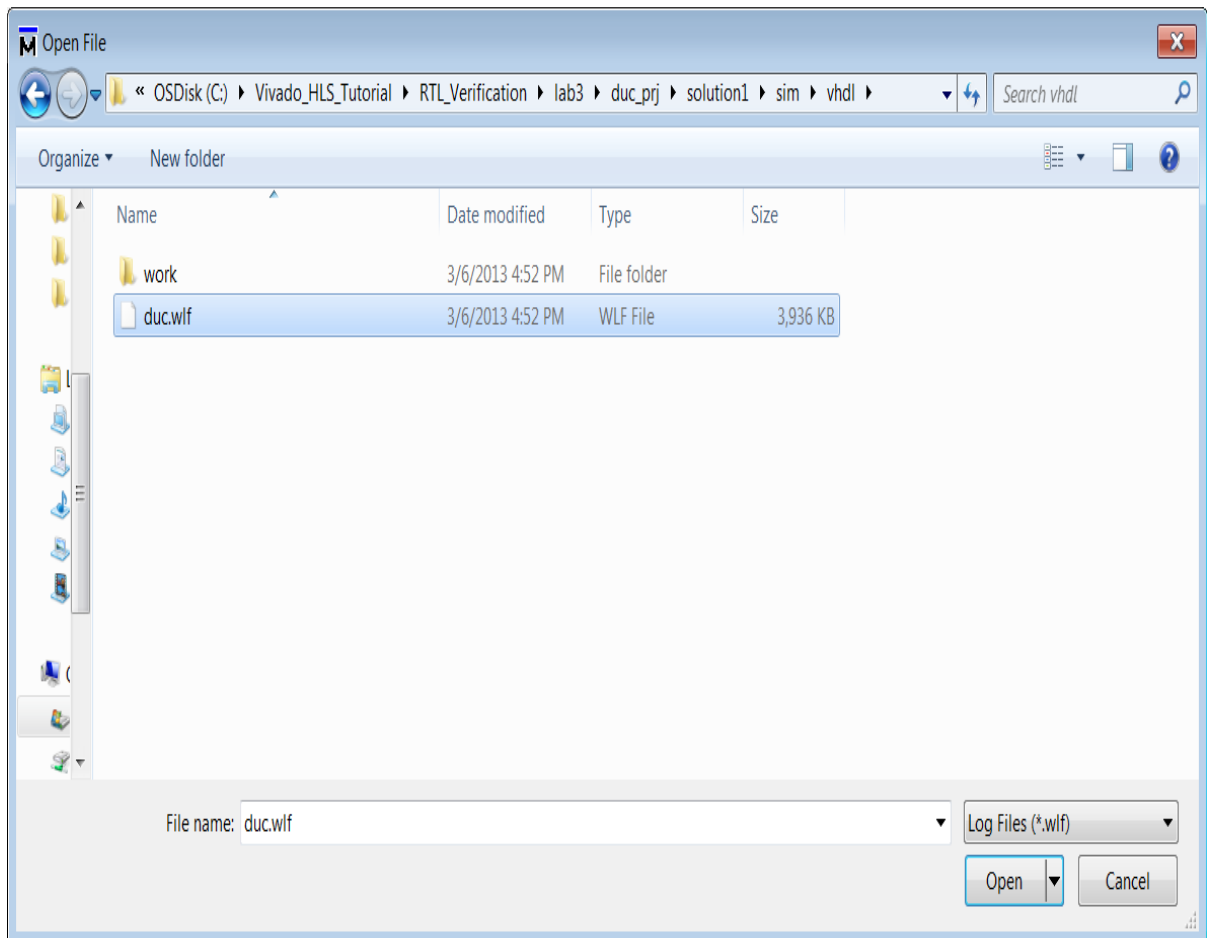

Figure 8-18: ModelSim Open File WLF
3. Select **Log Files** as the file type (Figure 8-18).